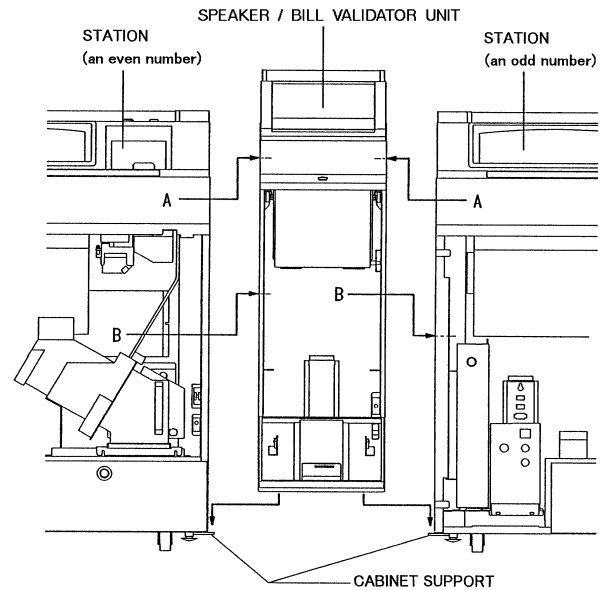

Fig. 27
1. Place a speaker/bill validator unit (Package 17/23 through Package 18/23) in between two consecutive-numbered station units. Refer to Fig. 27.
3. Open the upper doors of the station units to tighten the bolts A (M6 x 15 with F6 washer) (Package No. 22/23) near the armrests. Refer to Fig. 27.